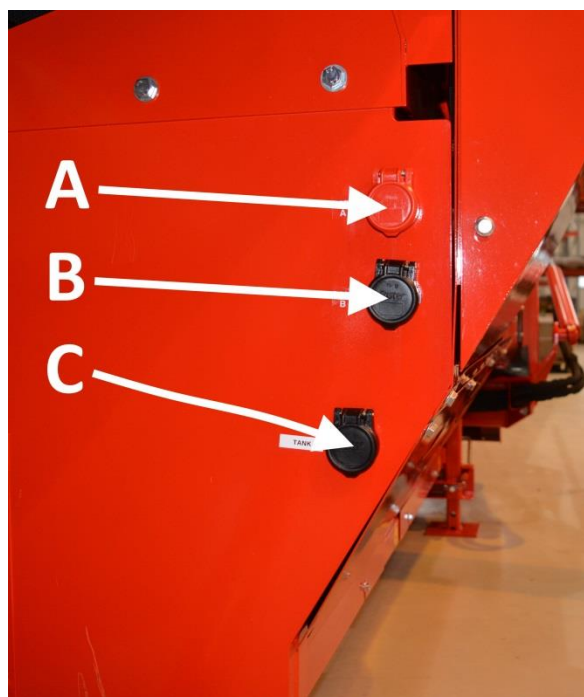

Figure 18.
1. Connect the additional hydraulics (e.g. when using the lateral transfer mechanism of the HakkiFeed 472 log table) by pushing the auxiliary device's hydraulic hoses into quick couplings A and B in Figure 18. Connect the accessory hose (marked in red) to quick coupling A.